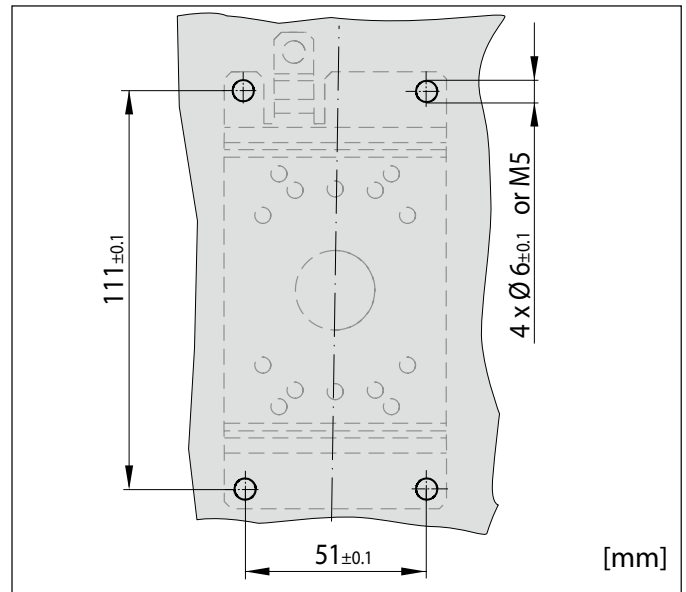

Fig. 4: Dimensions and layout of mounting holes (stand-alone version)
- ▶ For stand alone versions, a suitable mounting plate with 4 mounting holes in accordance with the following dimensional drawing (Fig. 4) must be provided for fastening of the contactors.